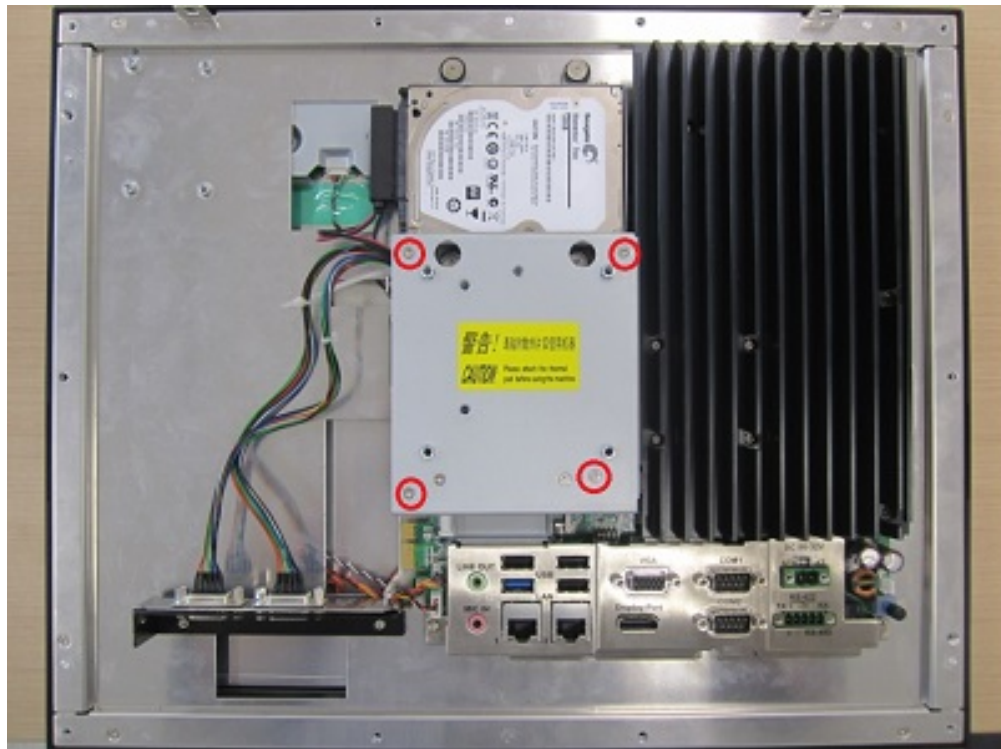

Figure 2.59
5. Replace the VESA mount plate (as shown in Fig. 2.59) and secure in place using four screws. Then replace the rear cover to complete the installation.